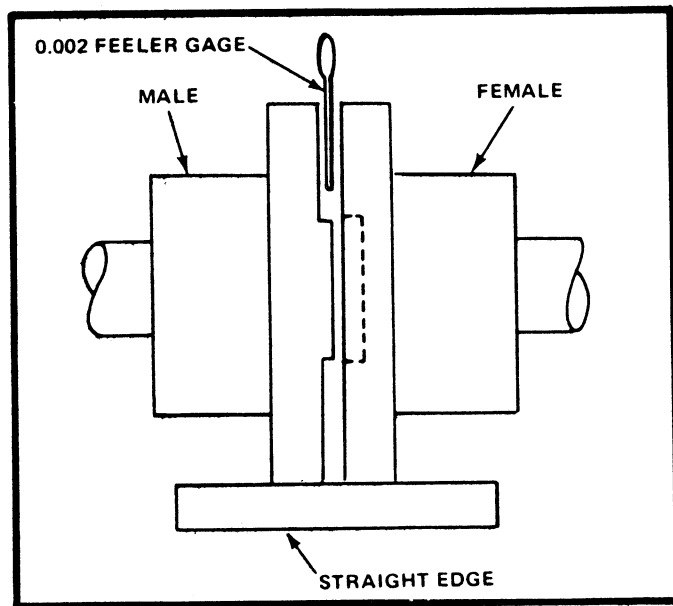

Figure 9-24. Checking Alignment (Parallelism) of Coupling and Propeller Flanges.
2. It will also be necessary to move the engine and transmission from one side or the other on the bed to obtain horizontal alignment. This can be done with a jack placed horizontally between the engine and the foundation. At the same time, a straight edge is laid across the edges of the flanges at the top and side-to check the parallel alignment of the coupling edges. See Figure 9-24.